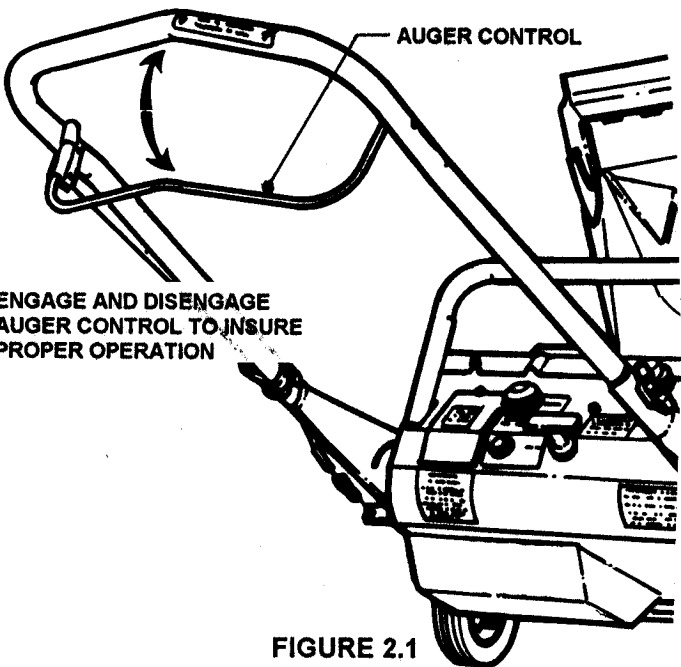

FIGURE 2.1
2.1.2. Check auger control to insure it work freely. See Figure 2.1.